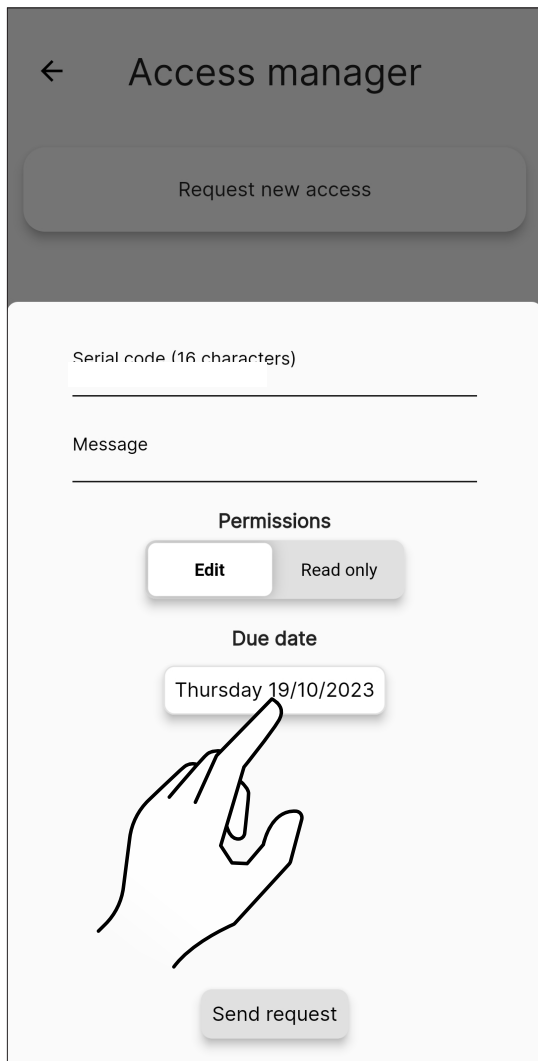

Fig. 31
- select “Due date” to decide for how much time you wish to control the stove (Fig. 31)